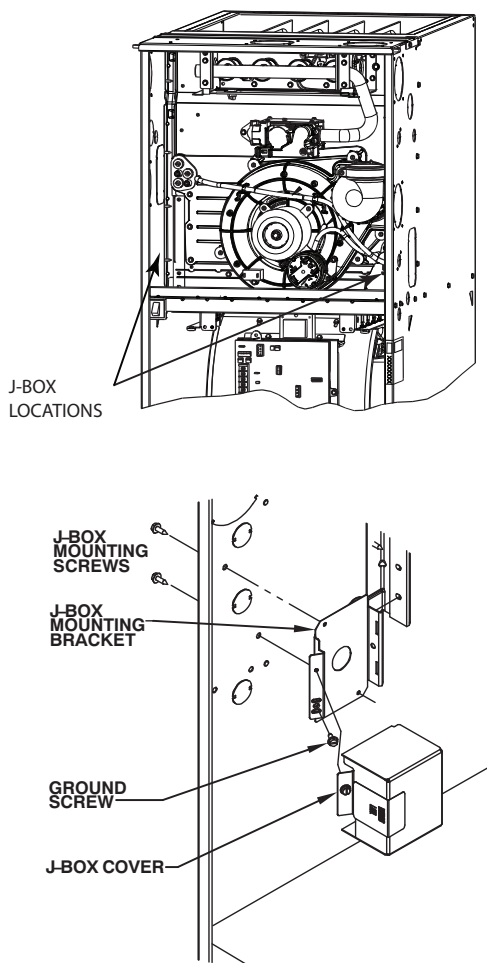

Fig. 33 - Installing J-Box (When Used)
Align the J-Box mounting bracket against the inside of the casing and secure the mounting bracket with the screws. (See Fig. 33.)
6. Connect field ground wire and factory ground wire to green ground screw on J-Box mounting bracket as shown in Fig. 33.
1. Install J-Box mounting bracket to inside of furnace casing. (See Fig. 33.)
5. Connect field ground wire and factory ground wire to green ground screw on J-Box mounting bracket as shown in Fig. 33.
7. Attach furnace J-Box cover to mounting bracket with screws supplied in loose parts bag. Do not pinch wires between cover and bracket. (See Fig. 33).
1. Install J-Box mounting bracket to inside of furnace casing. See Fig. 33.
4. Connect field ground wire and factory ground wire to green ground screw on J-Box mounting bracket as shown in Fig. 33.